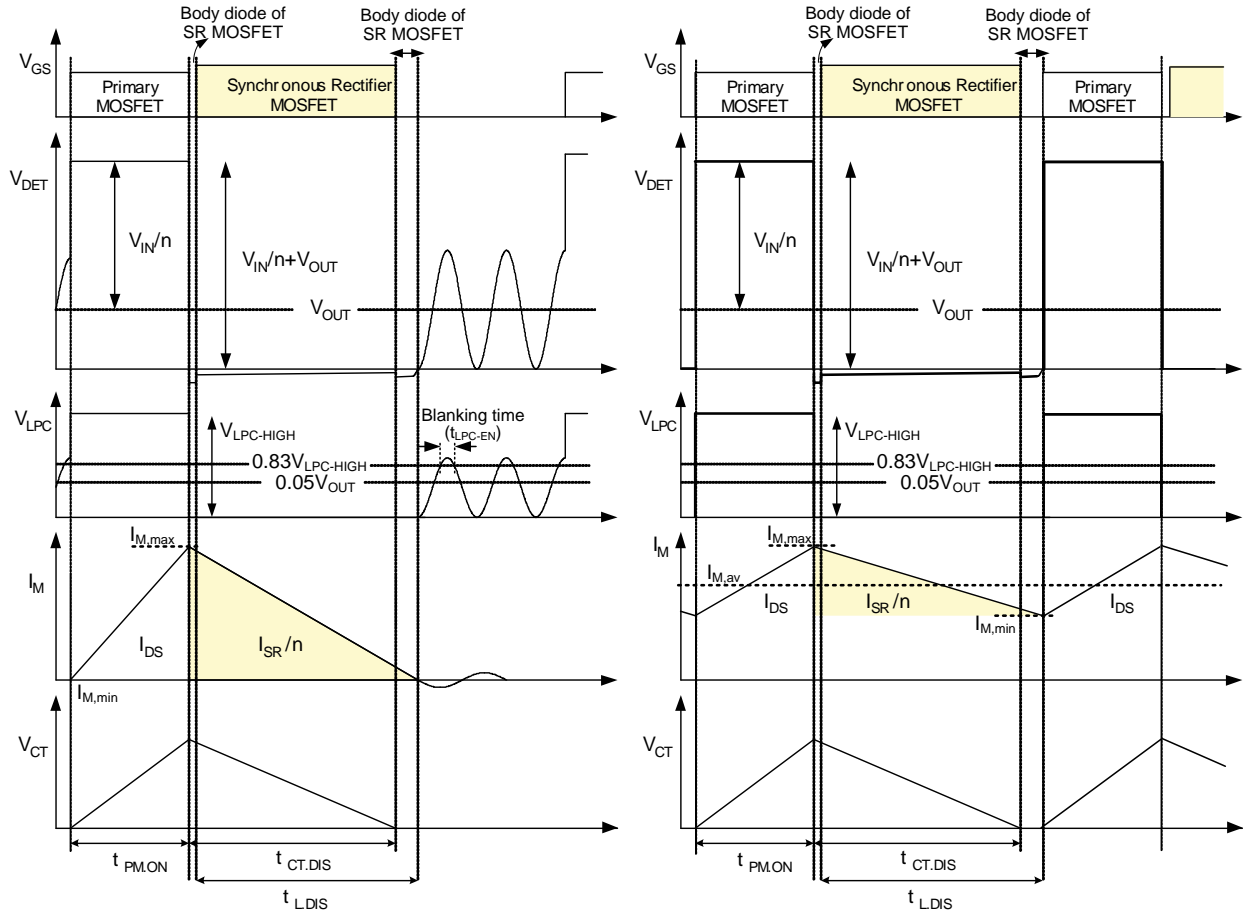

Figure 18. Typical Waveforms of Linear-Predict Timing Control in CCM and DCM/QR Flyback
The SR MOSFET turn-off timing is determined by linear-predict timing control and the operation principle is based on the volt-second balance theorem. The volt-second balance theorem states that the inductor average voltage is zero during a switching period in steady state, so the charge voltage and charge time product is equal to the discharge voltage and discharge time product. In flyback converters, the charge voltage on the magnetizing inductor is input voltage ( $V_{IN}$ ), while the discharge voltage is  $nV_{OUT}$ , as the typical waveforms show in Figure 18. The following equation can be drawn:
FAN6204A uses the LPC and RES pins with two sets of voltage dividers to sense DET voltage ( $V_{DET}$ ) and output voltage ( $V_{OUT}$ ), respectively; so  $V_{IN}/n$ ,  $t_{PM,ON}$ , and  $V_{OUT}$  can be obtained. As a result,  $t_{L,DIS}$ , which is the on-time of SR MOSFET, can be predicted by Equation (1). As shown in Figure 18, the SR MOSFET is turned on when the SR MOSFET body diode starts conducting and DET voltage drops to zero. The SR MOSFET is turned off by linear-predict timing control.
The linear-predict timing-control circuit generates a replica ( $V_{CT}$ ) of magnetizing current of flyback transformer using internal timing capacitor ( $C_T$ ), as shown in Figure 19. Using the internal capacitor voltage, the inductor discharge time ( $t_{L,DIS}$ ) can be detected indirectly, as shown in Figure 18. When  $C_T$  is discharged to zero, the SR controller turns off the SR MOSFET.
Referring to Figure 18; when LPC voltage is higher than  $V_{LPC-EN}$  over a blanking time ( $t_{LPC-EN}$ ) and lower than  $V_{LPC-TH-HIGH}$  ( $0.05 V_{OUT}$ ), then SR MOSFET can be triggered. Therefore,  $V_{LPC-EN}$  must be larger than  $V_{LPC-TH-HIGH}$  or the SR MOSFET cannot be turned on. When designing the voltage divider of LPC,  $R_1$  and  $R_2$  should be considered as:
The typical waveforms of CCM operation in steady state are shown as Figure 18. When the primary-side MOSFET is turned on, the energy is stored in  $L_m$ . During the on-time of the primary-side MOSFET ( $t_{PM.ON}$ ), the magnetizing current ( $I_M$ ) increases linearly from  $I_{M,min}$  to  $I_{M,max}$ . Meanwhile, internal timing capacitor ( $C_T$ ) is charged by current source ( $i_{CHR} - i_{DICHR}$ ) proportional to  $V_{IN}$ , so  $V_{CT}$  also increases linearly.
In DCM / QR operation, when primary-side MOSFET is turned off, the energy stored in  $L_m$  is fully released to the output at the turn-off timing of primary-side MOSFET. Therefore, the DET voltage continues resonating until the primary-side MOSFET is turned on, as depicted in Figure 18. While DET voltage is resonating, DET voltage and LPC voltage drop to zero by resonance, which can trigger the turn-on of the SR MOSFET. To prevent fault triggering of the SR MOSFET in DCM operation, blanking time is introduced to LPC voltage. The SR MOSFET is not turned on even when LPC voltage drops below  $0.05 V_{OUT}$  unless LPC voltage stays above  $0.83 V_{LPC-HIGH}$  longer than the blanking time ( $t_{LPC-EN}$ ). The turn-on timing of the SR MOSFET is inhibited by gate inhibit time ( $t_{INHIBIT}$ ), once the SR MOSFET turns off, to prevent fault triggering.